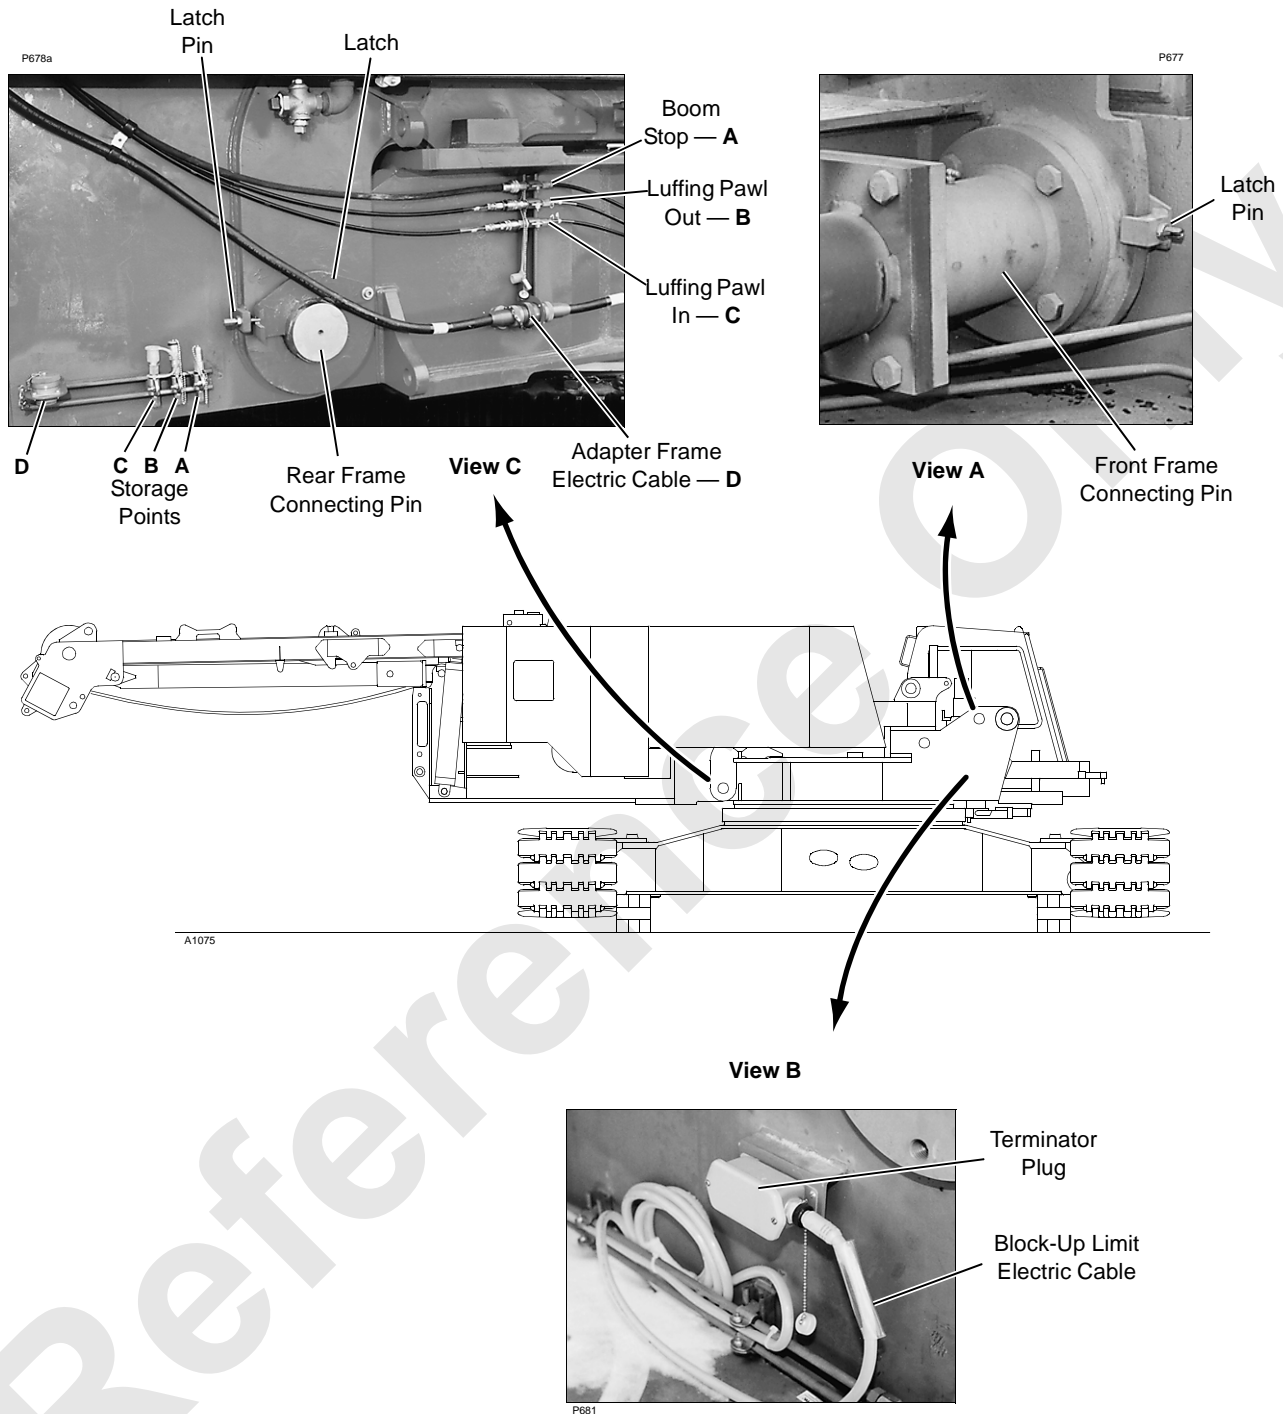

FIGURE 4-12
11. Connect block-up limit electric cable to terminator plug on adapter frame (Figure 4-12, View B).
- c. Retain frame connecting pins with latches and secure latches with latch pins (Figure 4-12, View A and C)
15. Disconnect electric cable and air lines from storage points on right side of rotating bed and connect to plug and quick-couplers on right side of adapter frame (Figure 4-12, View C).